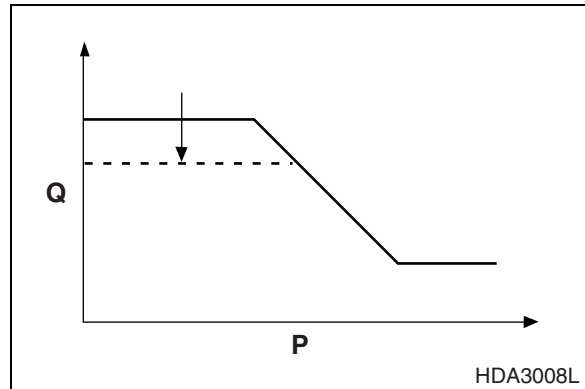

Figure 10
Maximum and minimum discharge flow can be modified by loosening lock nuts (808, Figure 1). To decrease maximum discharge flow (by approximately 5.6 lpm [0.025 gpm]), tighten adjusting screw (954) by 1/4 turn. Figure 10 shows the effect of this adjustment on the output characteristics of the pump.